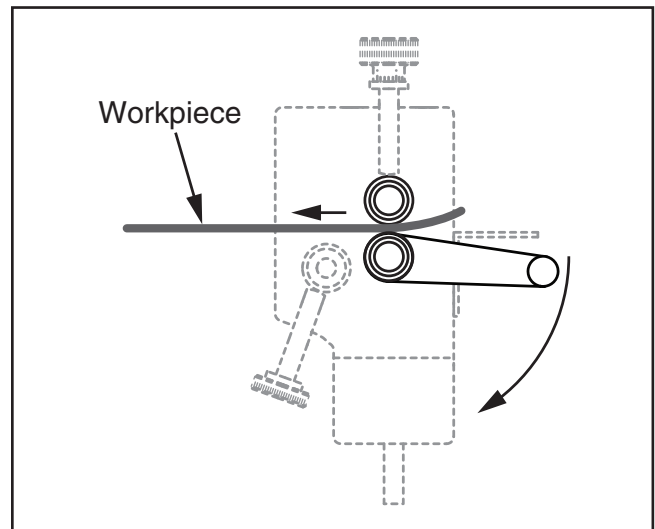

Figure 8. Workpiece fed between the rollers to flatten it.
6. Place the front of the workpiece on the workpiece support. Slowly rotate the hand crank clockwise to feed the workpiece through the rollers, as illustrated in **Figure 8**.